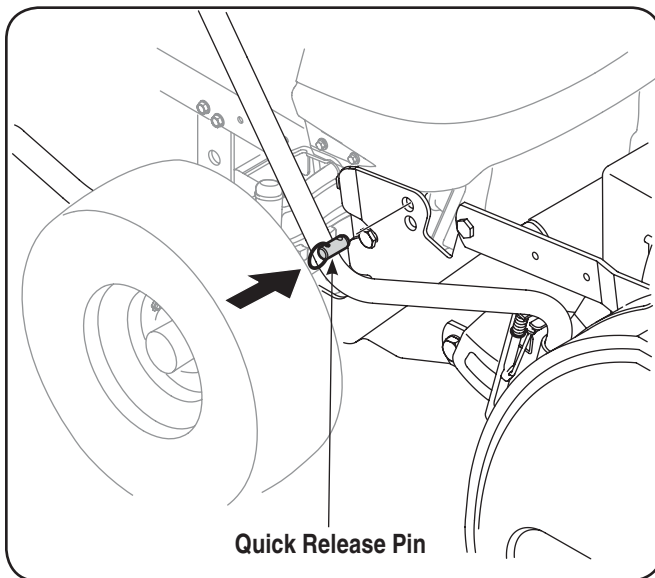

Figure 3-16
5. Maneuver the auger housing until the mounting holes line up. Insert the two quick release pins from your hardware pack into the top hole on each side as seen in Fig. 3-16.